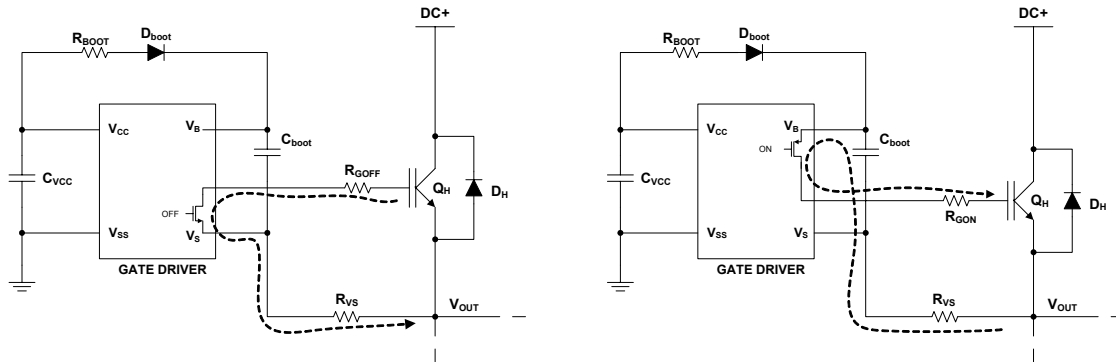

Figure 12: Gate turn-on and turn-off with R_{VS}
3. R_{VS} takes also part in turn-on ($R_{GON}+R_{VS}$) an turn-off resistor sizing ($R_{GOFF}+R_{VS}$) as shown in figure 12.